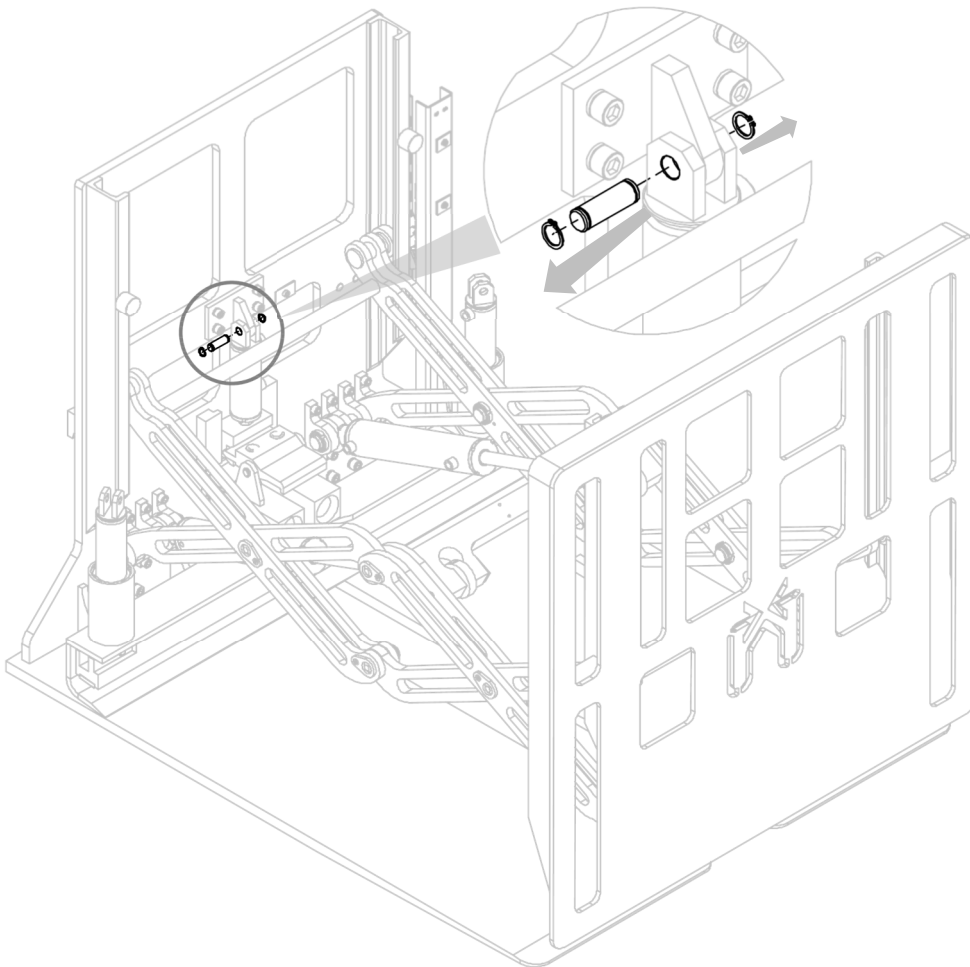

Figure 29
2. Remove the pin (after removing the snap rings that lock it) that holds the cylinder to its bolted coupling (see *Figure 29*).